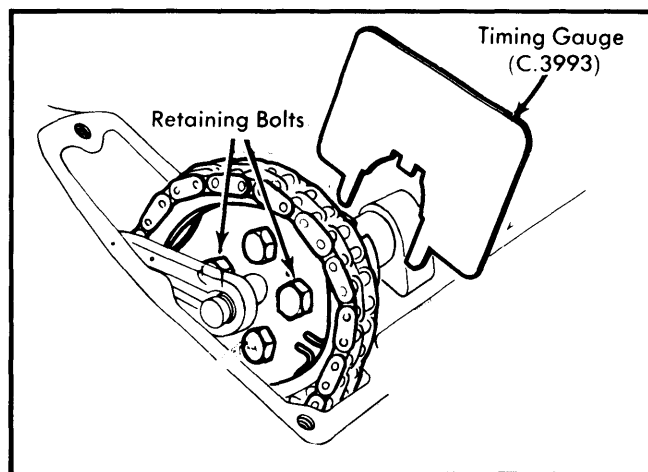
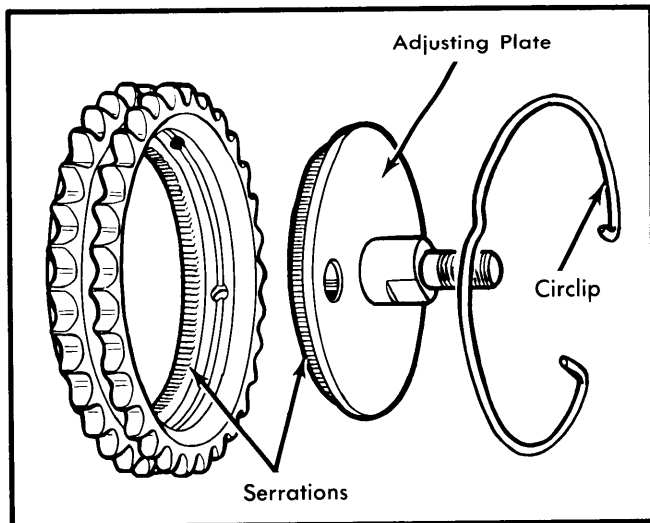

Fig. 1 Retaining Bolts Installed to Hold Camshaft During Cylinder Head Installation
Fig. 4 Expanded View of Camshaft Sprocket Assembly
2) Rotate camshafts until suitable timing gauge (C.3993) can be located in front flange slots (Fig. 1). Lower cylinder head into position, attach spark plug wire brackets and lifting brackets to appropriate head studs, then place washers and
3) Position camshafts accurately with valve timing gauge (See Fig. 1), and check that TDC marks are in exact alignment. Withdraw circlips from camshaft sprocket assembly and press adjusting plates forward until serrations disengage (Fig. 4).